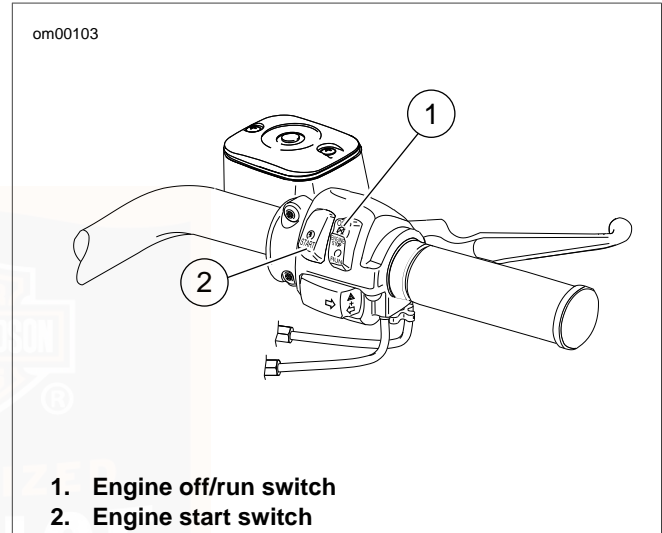

Figure 24. Right Handlebar Controls
2. See Figure 24. Turn the off/run switch to RUN position.